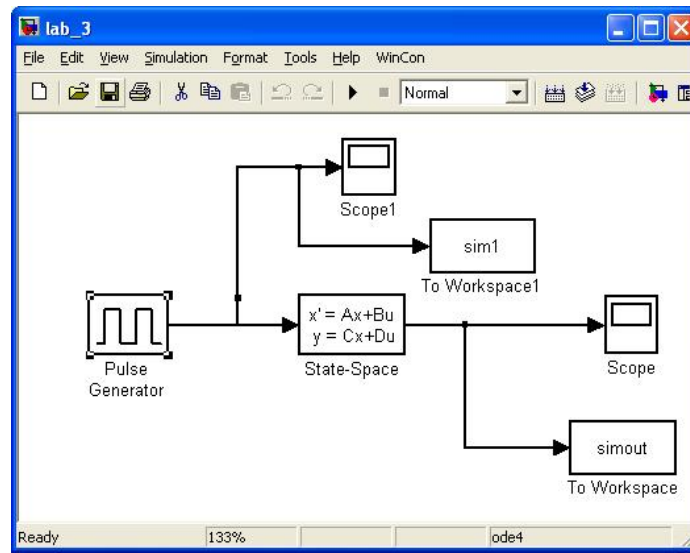

Figure 2.2: Simulink model for Lab 2
3. Prepare the Simulink model shown in Figure 2.2.